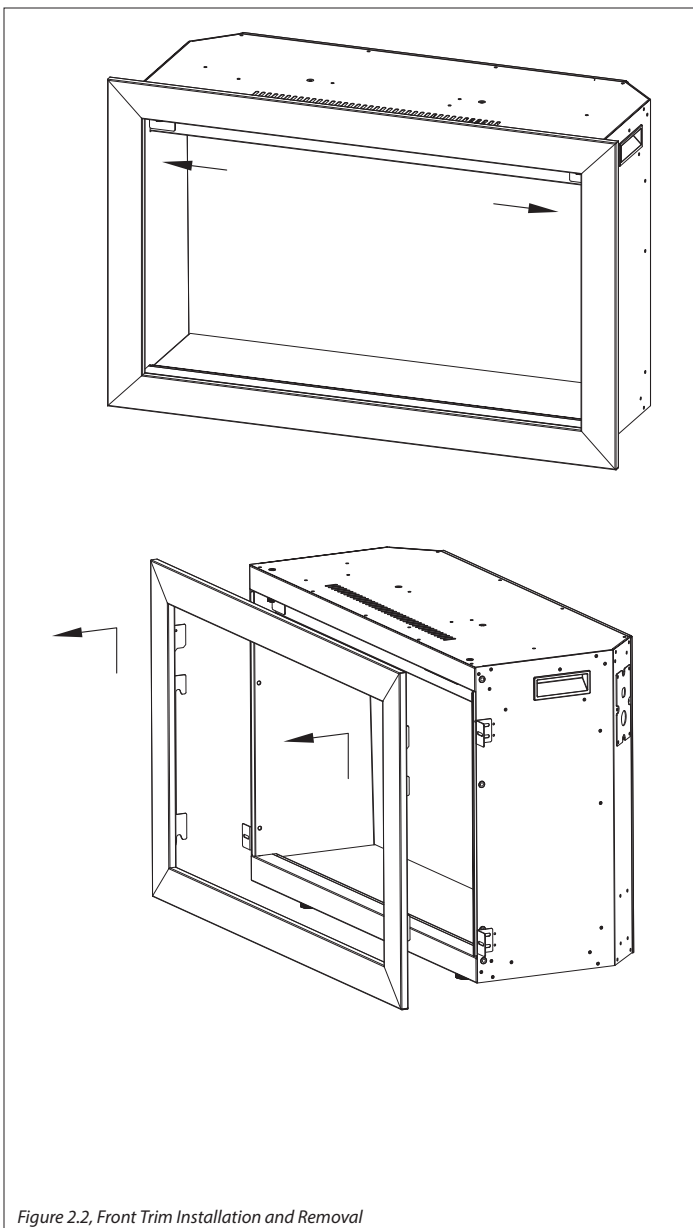

Figure 2.2, Front Trim Installation and Removal
1. With one hand on the front trim to prevent it from falling, remove the screws from the two sides of the trim (Figure 2.2). Save screws.
2. Carefully lift the front trim up and away from the appliance (Figure 2.2). Place it face down on a soft, non-abrasive surface.
3. To reinstall, align the attachment hooks on the back of the front trim with slots on the appliance. Raise the front trim slightly into the slots and allow the attachment hooks to lower into position. Hold trim and secure with (2) screws previously removed.